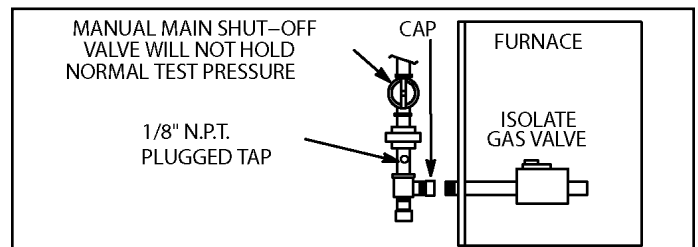

Figure 60.
- A 1/8" N.P.T. plugged tap or pressure post is located on the gas valve to facilitate test gauge connection. See Figure 60.
When testing pressure of gas lines, gas valve must be disconnected and isolated. See Figure 60. Gas valves can be damaged if subjected to pressures greater than 1/2 psig (3.48 kPa).